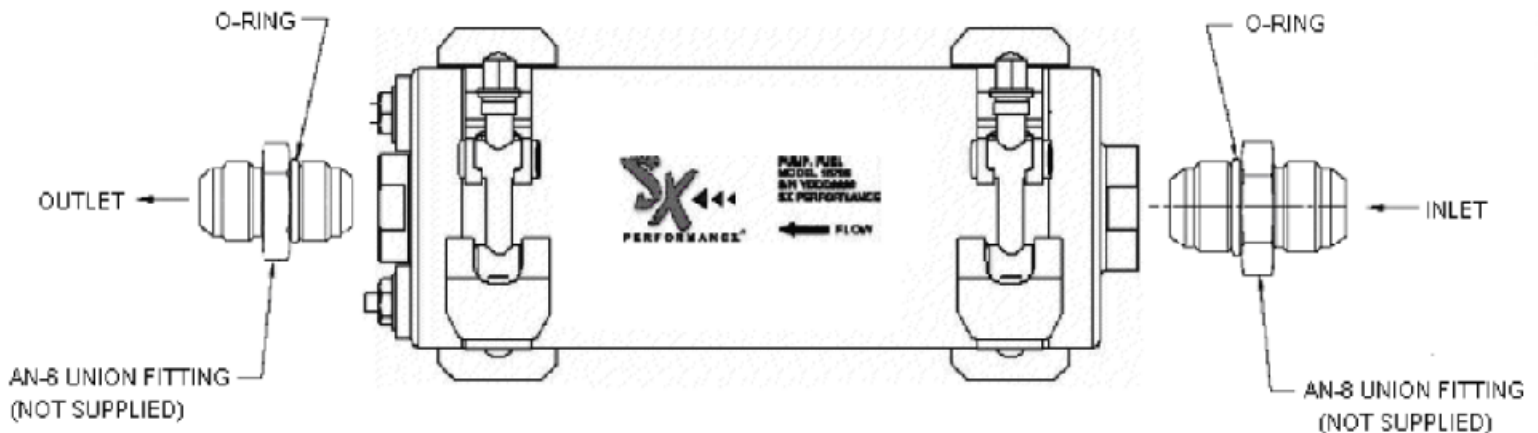

Figure 1 – SX Performance™ Model 18208 Fuel Pump Assembly
3. Mount the new pump in a suitable place on the vehicle chassis using quality mounting hardware (not supplied). Refer to Figure 1 for mounting hole locations. The pump must be mounted on a horizontal level that is even with or below the bottom of the fuel tank and as close to the fuel tank as possible. Ensure all fuel lines from the pump to the carburetor or fuel injection rails are high-pressure grade (200 psi minimum). Replace existing fuel lines as necessary so they line up with the new pump. Fuel lines from pump outlet to fuel rails should be AN-6 minimum.
4. Connect and tighten fittings to the inlet and outlet fuel lines, see Figure 1.